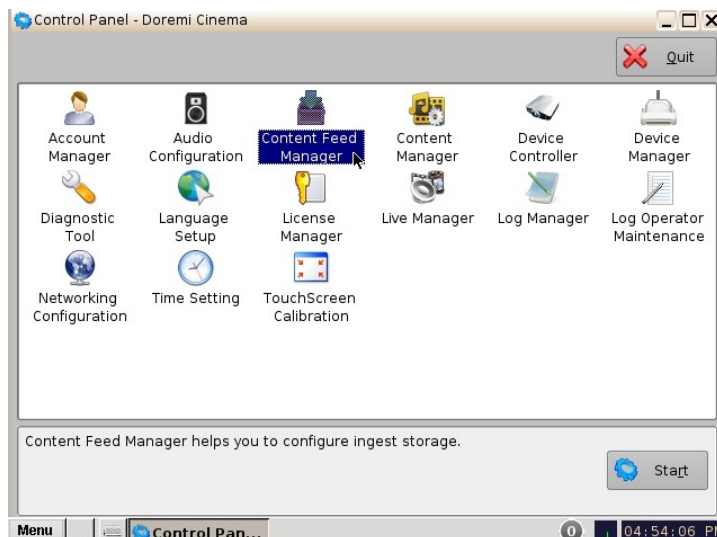

Figure 40: Control Panel with Content Feed Manager Icon Selected
- To open the Content Feed Manager application, go to Menu →Control Panel and double-click on the Content Feed Manager icon (Figure 40).